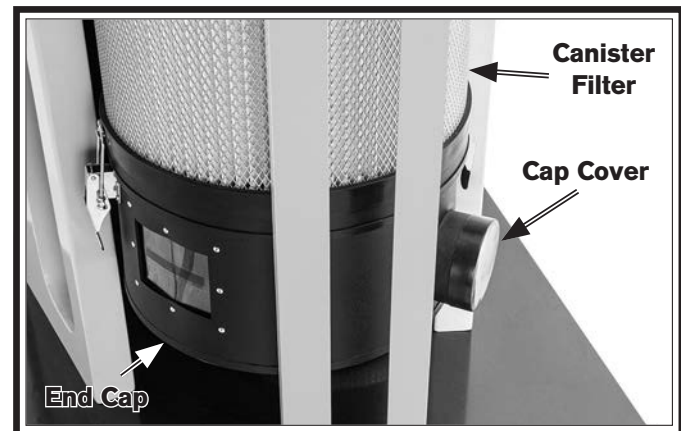

Figure 27. End cap attached to canister filter.
33. Attach end cap to bottom of canister filter and attach end cap cover (see **Figure 27**).